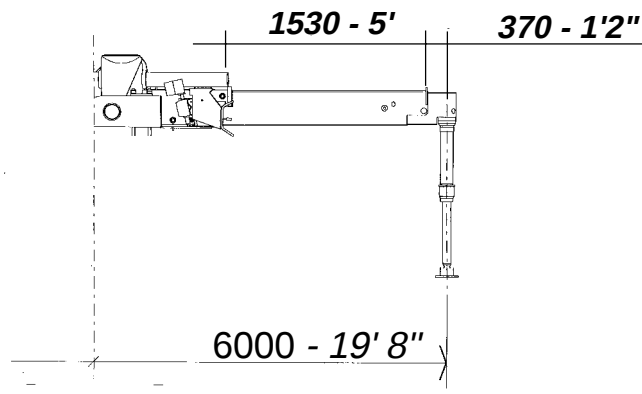

Fig.6-1
6.3 BRACCI STABILIZZATORI EXTRALLARGABILI(Fig. 6.1)
6.3 EXTRABREITE STÜTZARME (Abb. 6.1)